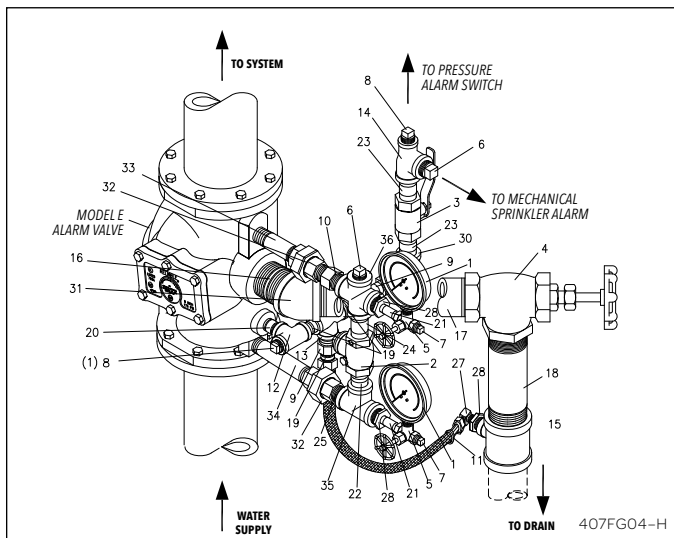

Fig. 4 – Constant Pressure Vertical Installation
Constant Pressure (Figure 4 and 6)
When the water ceases to flow through the Alarm Valve, the Clapper (4) returns to its seat thus stopping the flow of water to the retard chamber. Drain Orifices (Item 9, Fig. 4 and 6) allow the retard chamber and alarm line to empty through the drain line (Item 11, Fig. 4 and 6).